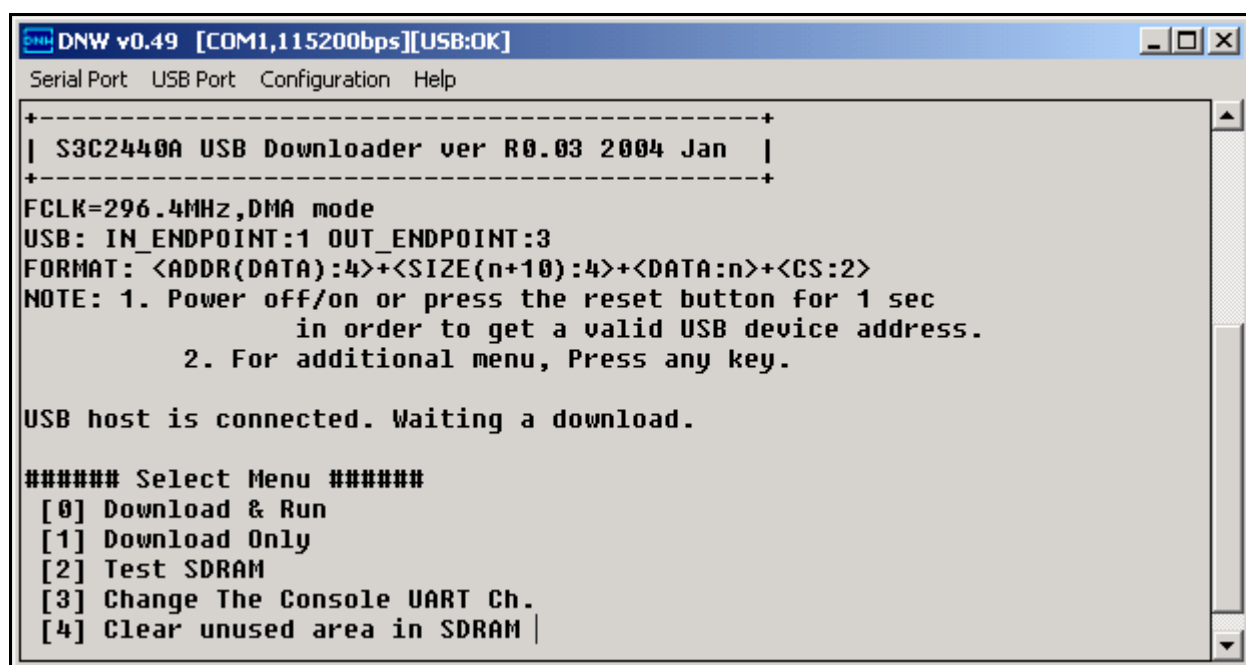

Figure 4-3 DNW Window After Board Power ON
5. Switch ON the board and then press any key. The DNW application window will now appear on your screen as shown below in the figure 4-3.